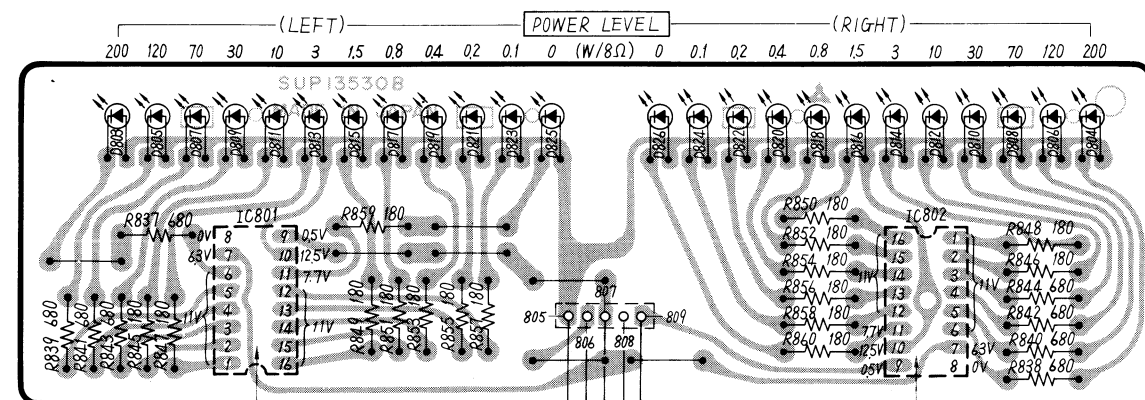

Fig. 5
1. Remove the two rear panel screws (no. 1 and no. 2 screws in figure 5).